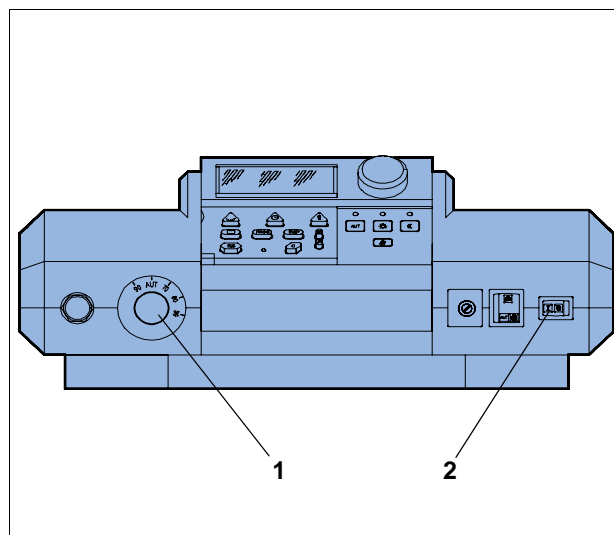

Fig. 2 2000 series Logamatic control device
Start up your boiler via the control device (in this example (Fig. 2): 2000 series Logamatic control device). By commissioning the control device, you also automatically commission the burner. The burner can then be started via the control device. For further details in this connection, see the operating instructions of the relevant control device or burner.
- Switch the boiler water thermostat (Fig. 2, **item 1**) to "AUT".
- Set the On/Off switch (Fig. 2, **item 2**) to "I" (ON).
- Set the On/Off switch (Fig. 2, page 9) to "0" (OFF).